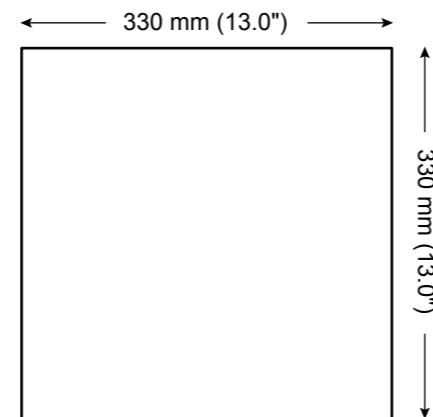

Fig. 12. PCI 45DC Cutout Dimensions
2. Carefully mark out a square in the desired location and carefully cutout a hole in the drywall/plasterboard. Remove any dust and debris from the hole (Fig. 12).